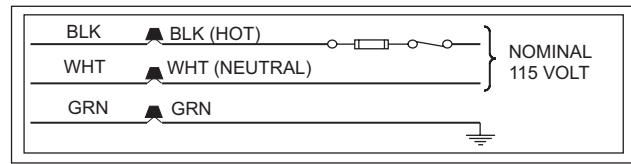

FIGURE 9: Line Wiring Connections
2. Remove the screws retaining the junction box cover. Route the power wiring through the opening in the unit into the junction box with a conduit connector or other proper connection. In the junction box there will be three wires, a Black Wire, a White Wire and a Green Wire. Connect the power supply as shown on the unit-wiring label on the inside of the blower compartment door or Figure 9. The black furnace lead must be connected to the L1 (hot) wire from the power supply. The white furnace lead must be connected to neutral. Connect the green furnace lead (equipment ground) to the power supply ground. An alternate wiring method is to use a field provided 2" (5.08 cm) x 4" (10.2 cm) box and cover on the outside of the furnace. Route the furnace leads into the box using a protective bushing where the wires pass through the furnace panel. After making the wiring connections replace the wiring box cover and screws.